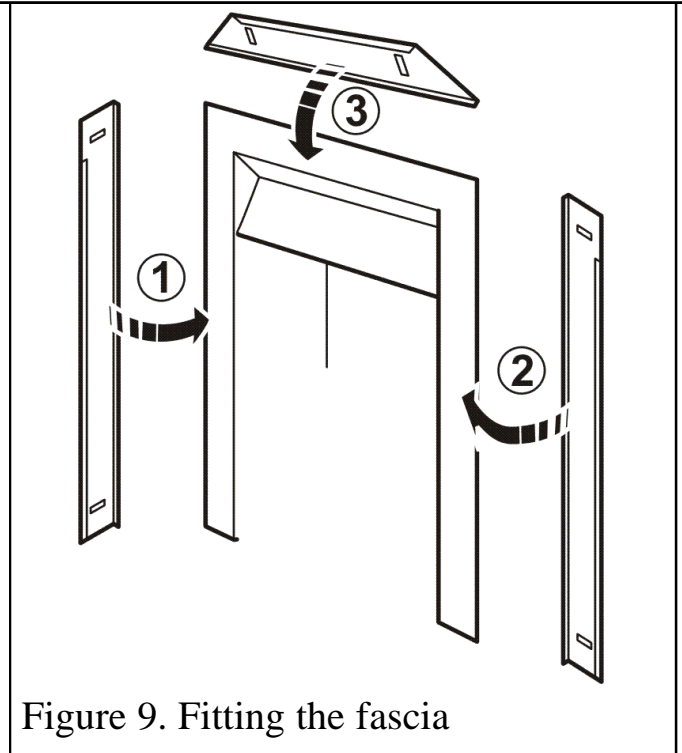

Figure 9. Fitting the fascia
3. Locate the side trims as in figure 9.
4. Locate the top trim as in figure 9.